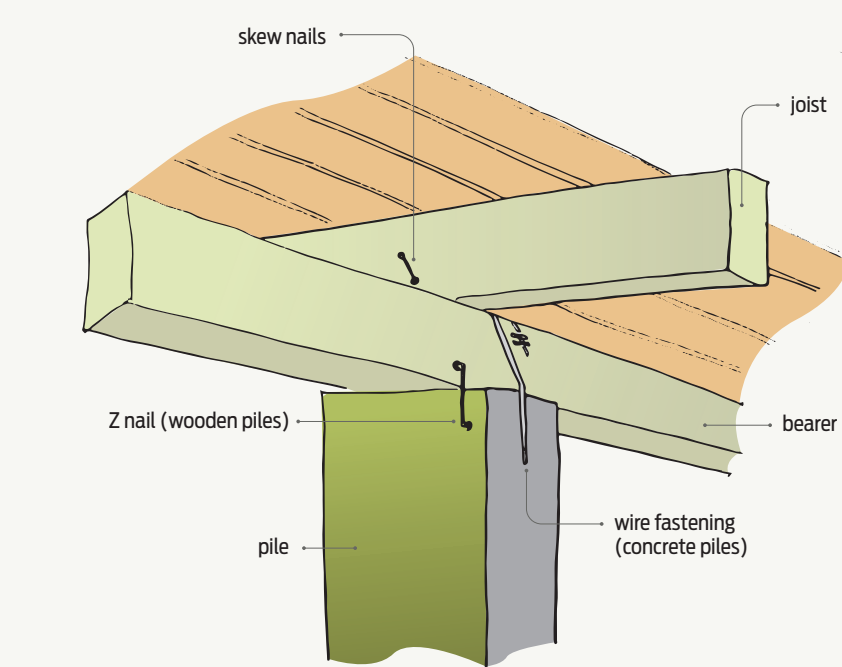

Figure 1 Typical subfloor configuration for a pile to bearer connection.
- Fix timber or concrete piles to a dwelling subfloor using the details in NZS 3604:2011 *Timber-framed buildings* (see Figure 1).